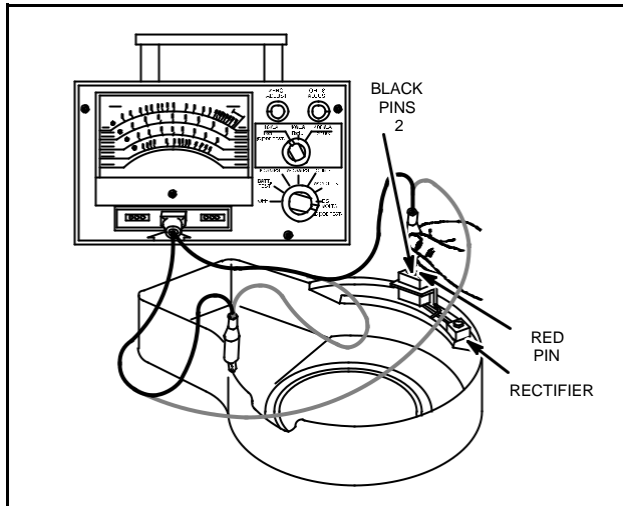

Fig. 784 – TESTING RECTIFIER
4. Attach RED test lead clip to a clean, unpainted area on blower housing. Leave RED test clip attached for remainder of test, Fig. 784.